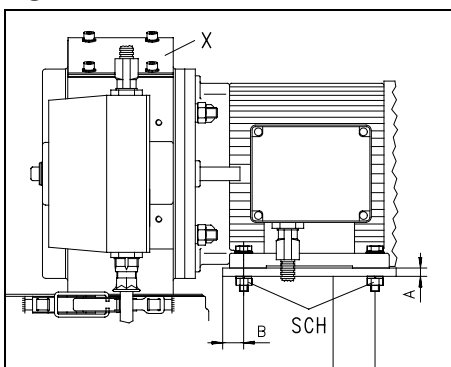

Fig.2
- * Place the SM 100 on the underframe **Fig.2**